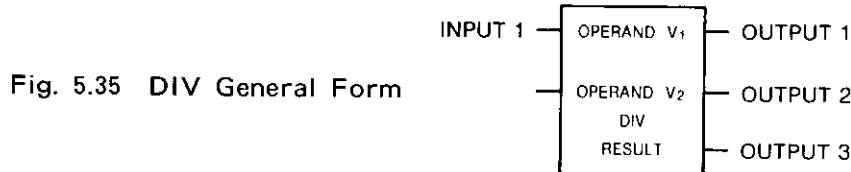

Fig. 5.35 DIV General Form
(2) Form
• Fig. 5.35 shows the form of divide (DIV).